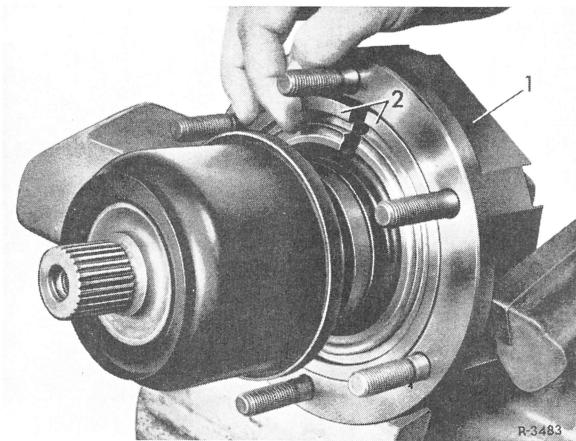

Fig. 11
12 Insert complete rear axle shaft into beading tool and install split supporting ring (2) (Fig. 11).